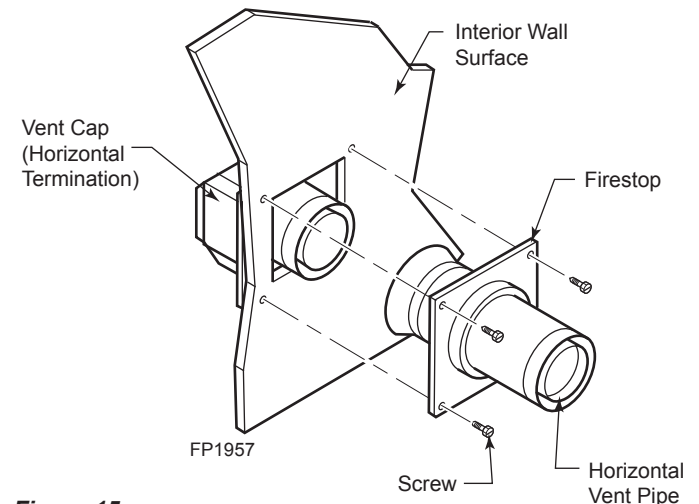

Figure 15 - Install Firestop on Horizontal Vent Pipe
5. Slide the wall thimble over the vent pipe before connecting the horizontal run to the vent cap. *Figure 15*
7. Slide the wall thimble against the interior wall surface and attach with screws. *Figure 15*